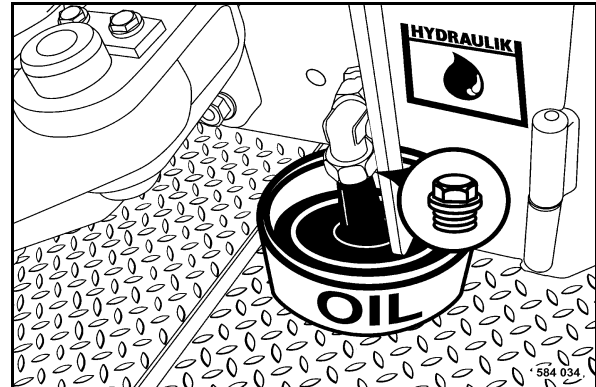

Fig. 181
- Unscrew the plug (Fig. 181) and drain off all hydraulic oil.